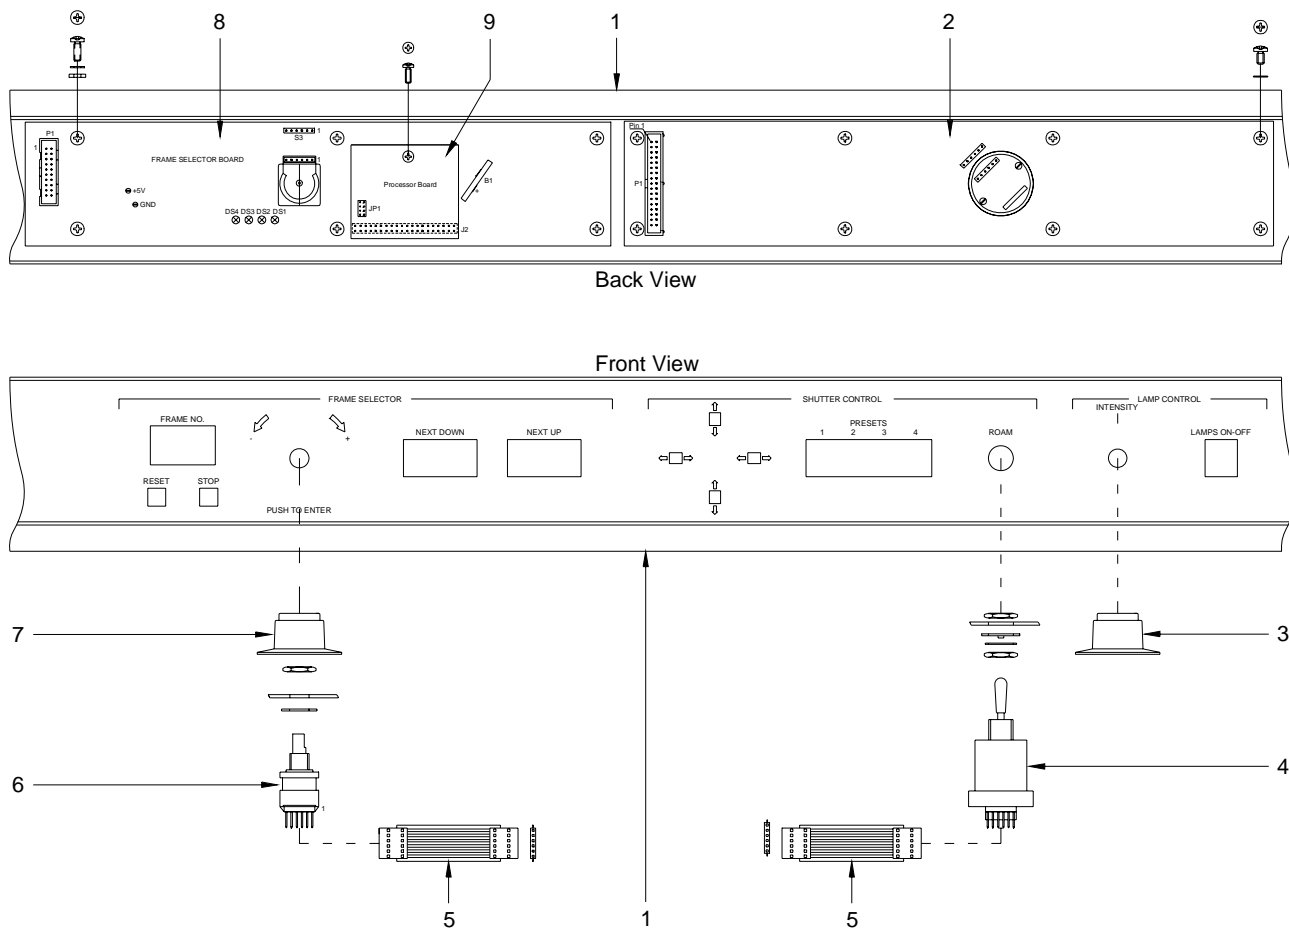

Figure 5-9-3. Control panel Components
### 5-9-2 Replacing Rotary Encoder (6), see Figure 5-9-3
### 5.9.3 Replacing Shutter Joy Stick (4), see Figure 5-9-3
### 5.9.4 Replacing Frame Selector Board (8), see Figure 5-9-3
### 5.9.5 Replacing Shutter Switch Board (2), see Figure 5-9-3